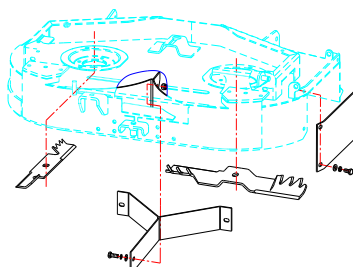

FIG 3
- Mulching Assembly (2832010): See FIG 3